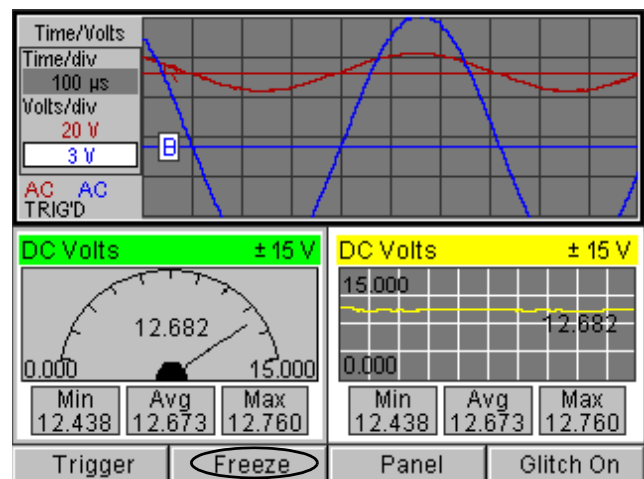

Figure 7.34: Lab Scope Screen, DMM On - Freeze Function Key
- If DMM is on, the screen looks similar to Figure 7.34.